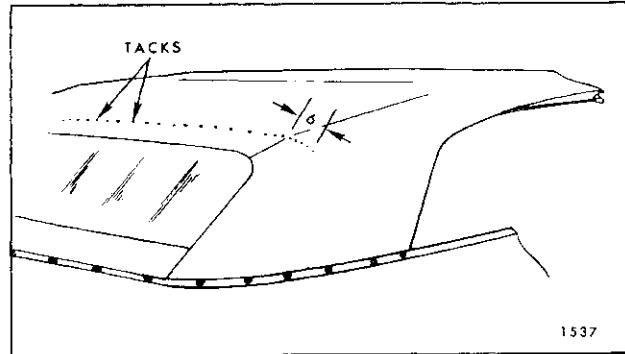

Fig. 13-38—Tacking Outboard of Seams
- IMPORTANT:** Tacks must be installed along a straight line in center of rear bow. (See Fig. 13-38.) Tacks outboard of deck seams should be restricted to distance not to exceed six inches, which is length wire-on binding extends past seam (Fig. 13-38).